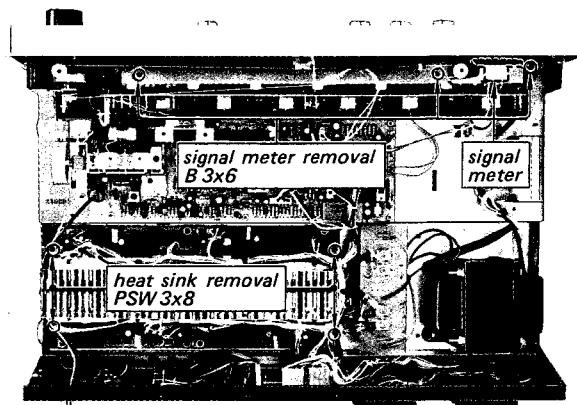

Fig. 2-8. Signal meter and power amplifier circuit board removal
2. Remove the three screws (B 3x6) shown in Fig. 2-8, securing the dial lamp shade to the front subchassis.
1. Remove the four screws (PSW 3x8) shown in Fig. 2-8 and lift up the heat sink.